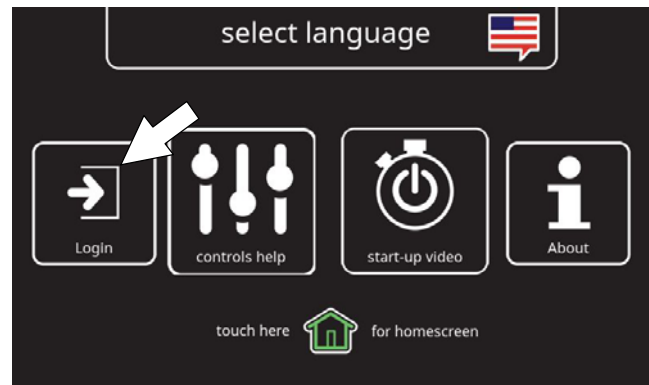

FIG. 154
2. Press the login button (Figure 154).